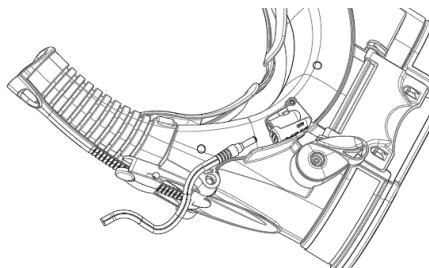

Figure 24 – Charging Port
- To charge the internal battery, turn the respirator upside down, and locate the charging port. See Figure 24.